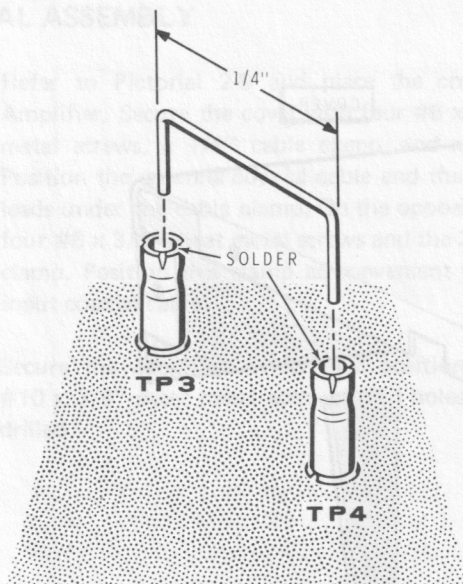

Figure 2-13
- ( ) Refer to Figure 2-13 and cut a capacitor lead (laid aside earlier) to 1/2". Bend the ends down to form a U-shaped connector. Place the ends in TP3 and TP4. Use a minimum amount of solder (this connector will be removed later) and solder the connector to TP 3 and TP 4.